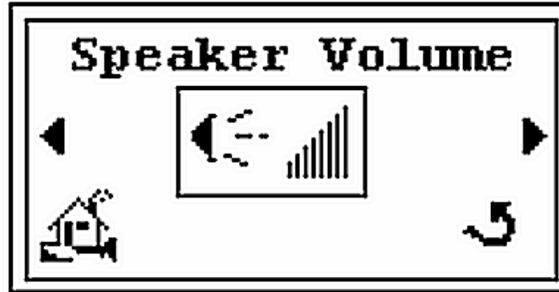

Figure 2-4 Speaker Volume Setup Screen
and press **Enter** and the *Speaker Volume* setup screen appears (Figure 2-4).
4. Press **Enter** and Figure 2-4 reappears.
1. Press the  ,  , + or - hard buttons to highlight the *Home* screen Tools icon  and press **Enter** and the *Speaker Volume* setup screen appears (Figure 2-4).